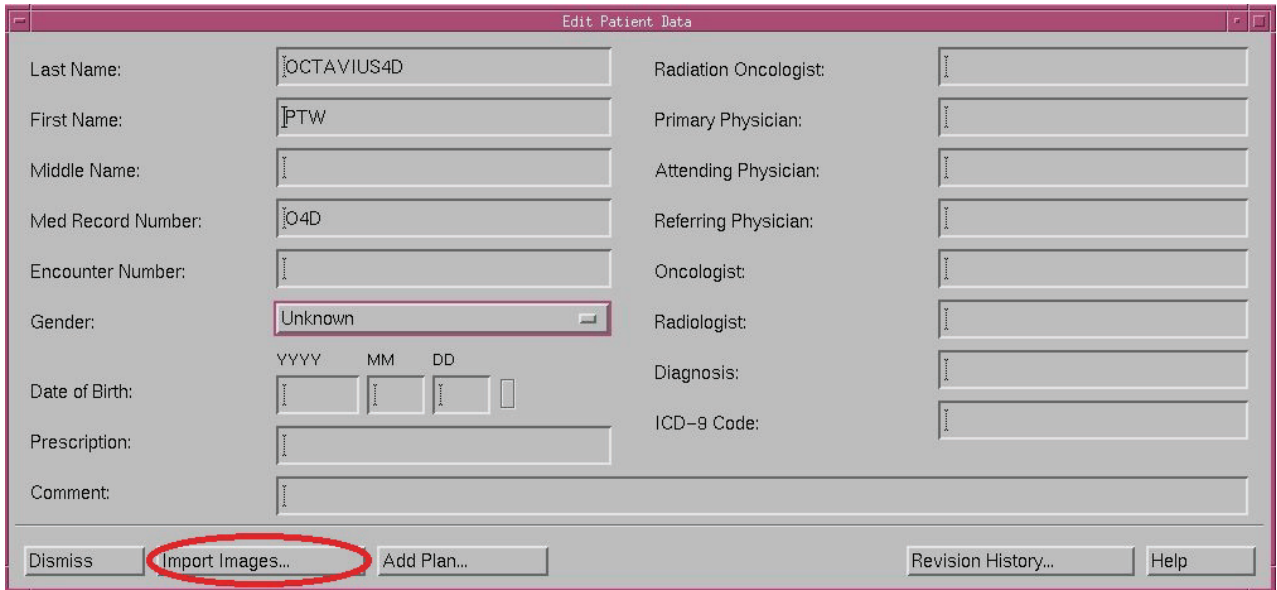

Fig. 2.2 Edit QA phantom data
2. Import the phantom images (Figure 2.2, 2.3, 2.4 and 2.5).